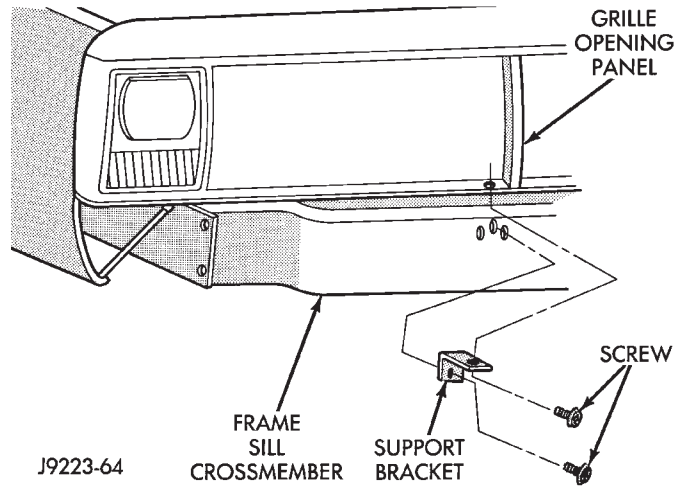

Fig. 6 Crossmember-to-GOP Support Bracket
(7) Remove the screws that attach the grille opening panel (GOP) support bracket to the front sill crossmember (Fig. 6).